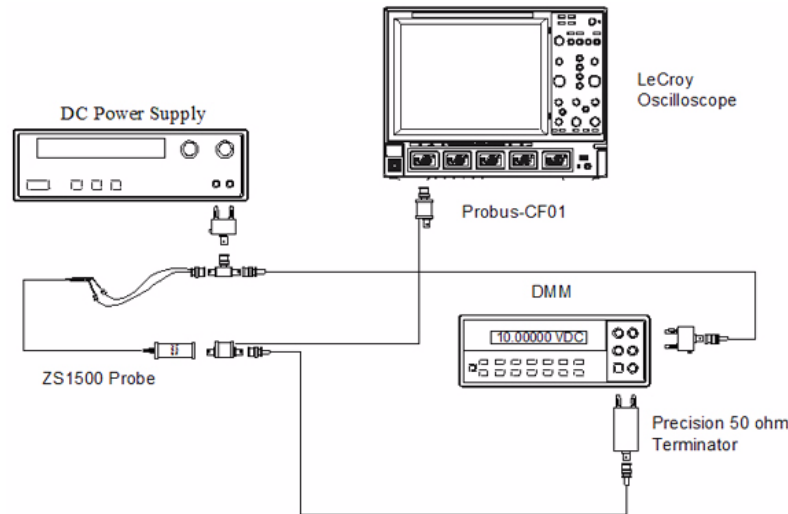

Figure 8-3. Offset Range Adjustment setup
5. Attach a BNC cable to the unused female port of the BNC tee and a dual banana plug adapter to the other end of the BNC cable and plug this into the DMM. Make sure the side of the banana plug corresponding to the BNC shield (marked 'GROUND') is connected to the **LO** or **COMMON** input of the DMM. Refer to Figure 8-3 for setup information.